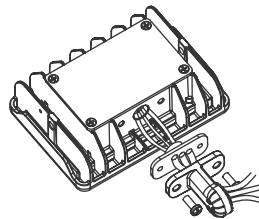

Fig. 1.3
4. Pass the wire through the other side of bracket and connect with bolts (Fig. 1.3).